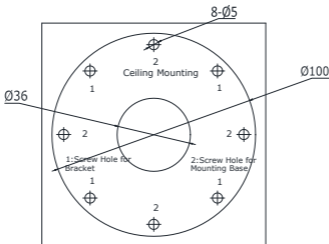

Figure 2-11 Drilling Holes in the Wall
- Drill holes in the wall according to Hole 2 on the drill template. See Figure 2-11.